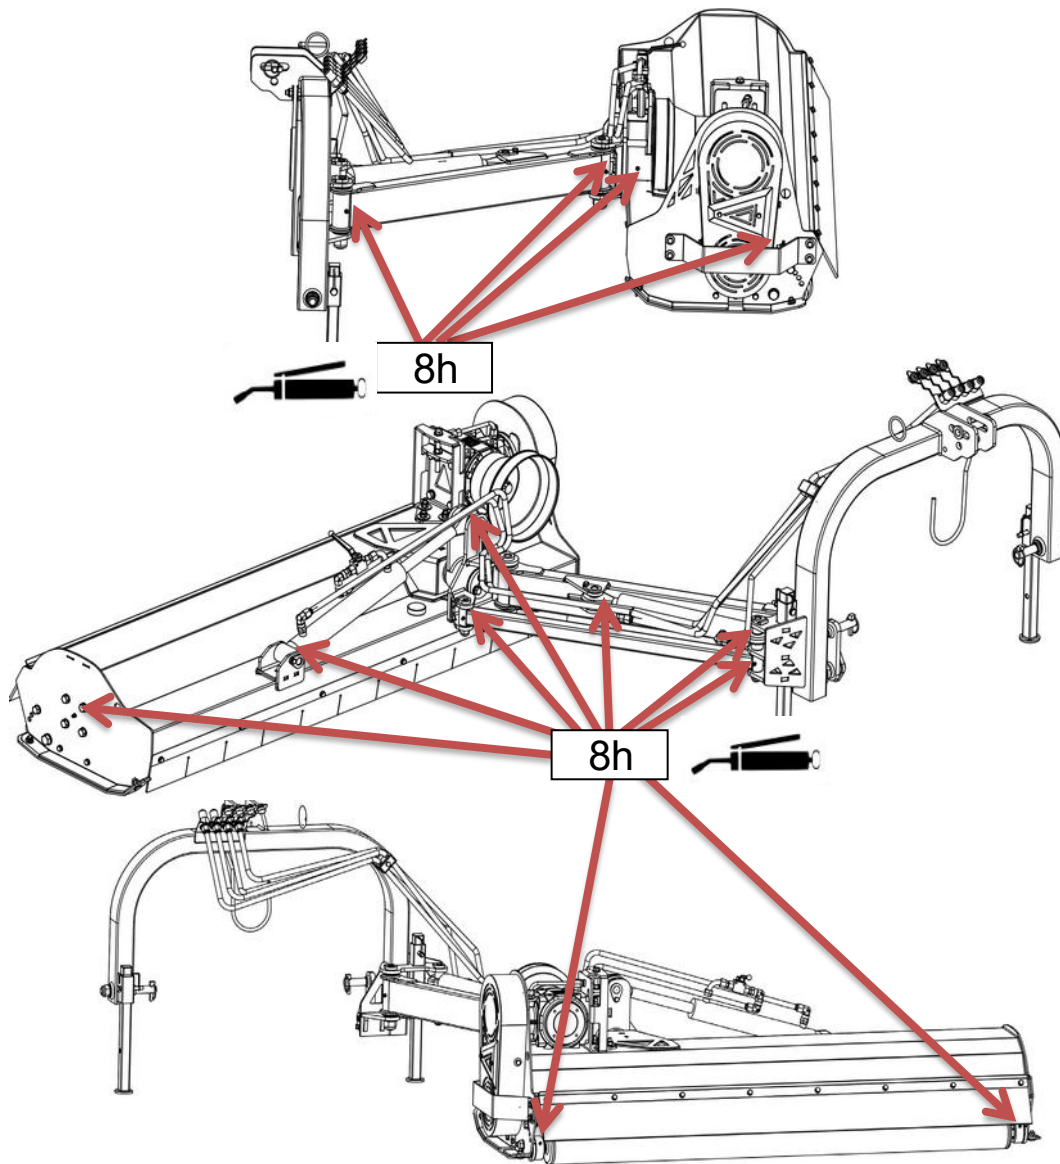

Figure 11. Lubrication diagram
- lubricate the machine according to the lubrication diagram (Fig. 11),